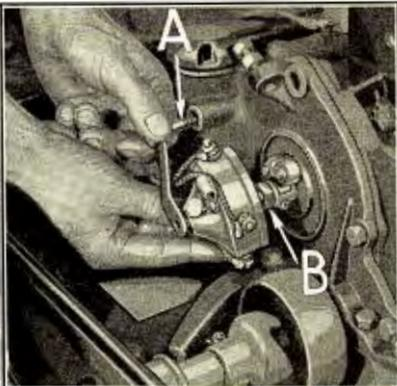
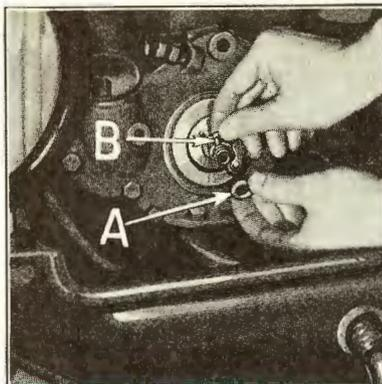

Fig. 265
Fig. 266
- 454 Remove commutator by running out commutator case spring bolt (See "A" Fig. 265), and lifting off commutator case. Run off commutator lock nut "B". Lift off commutator brush cap (See "A" Fig. 266) and withdraw pin "B". Commutator brush and shield can then be removed and felt ring lifted out of recess in cylinder front cover.